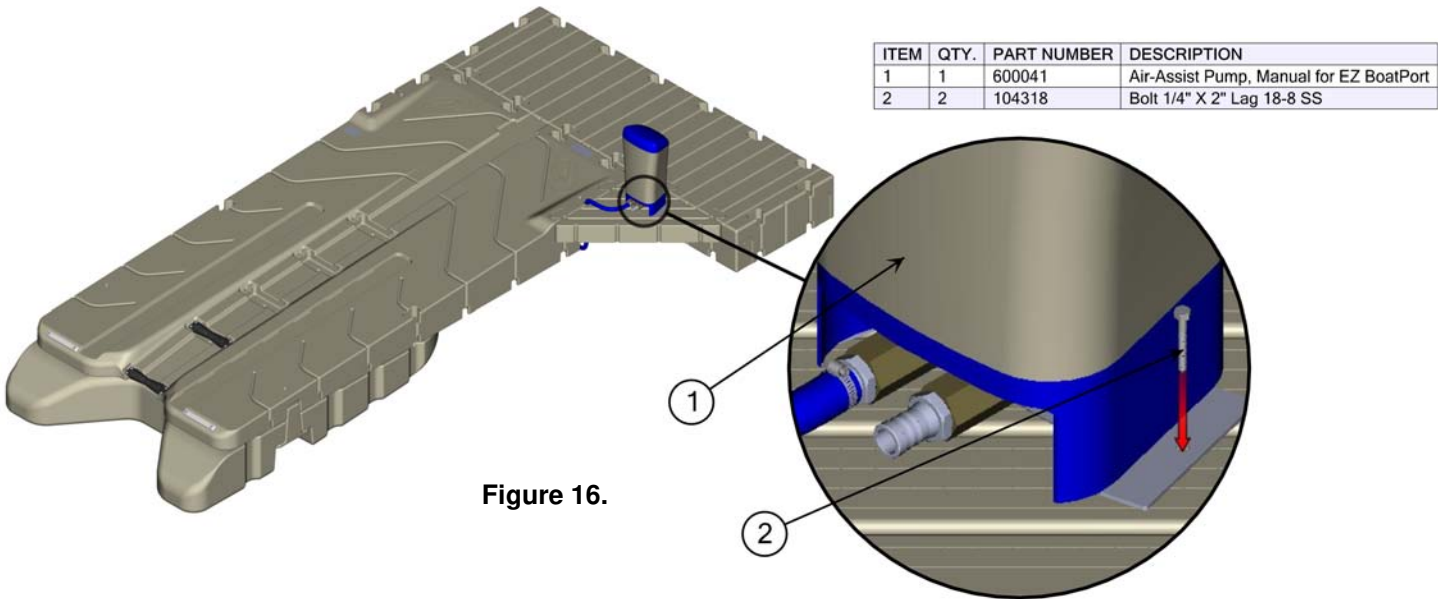

Figure 16.
- Finally, attach pump unit (Figure 16):